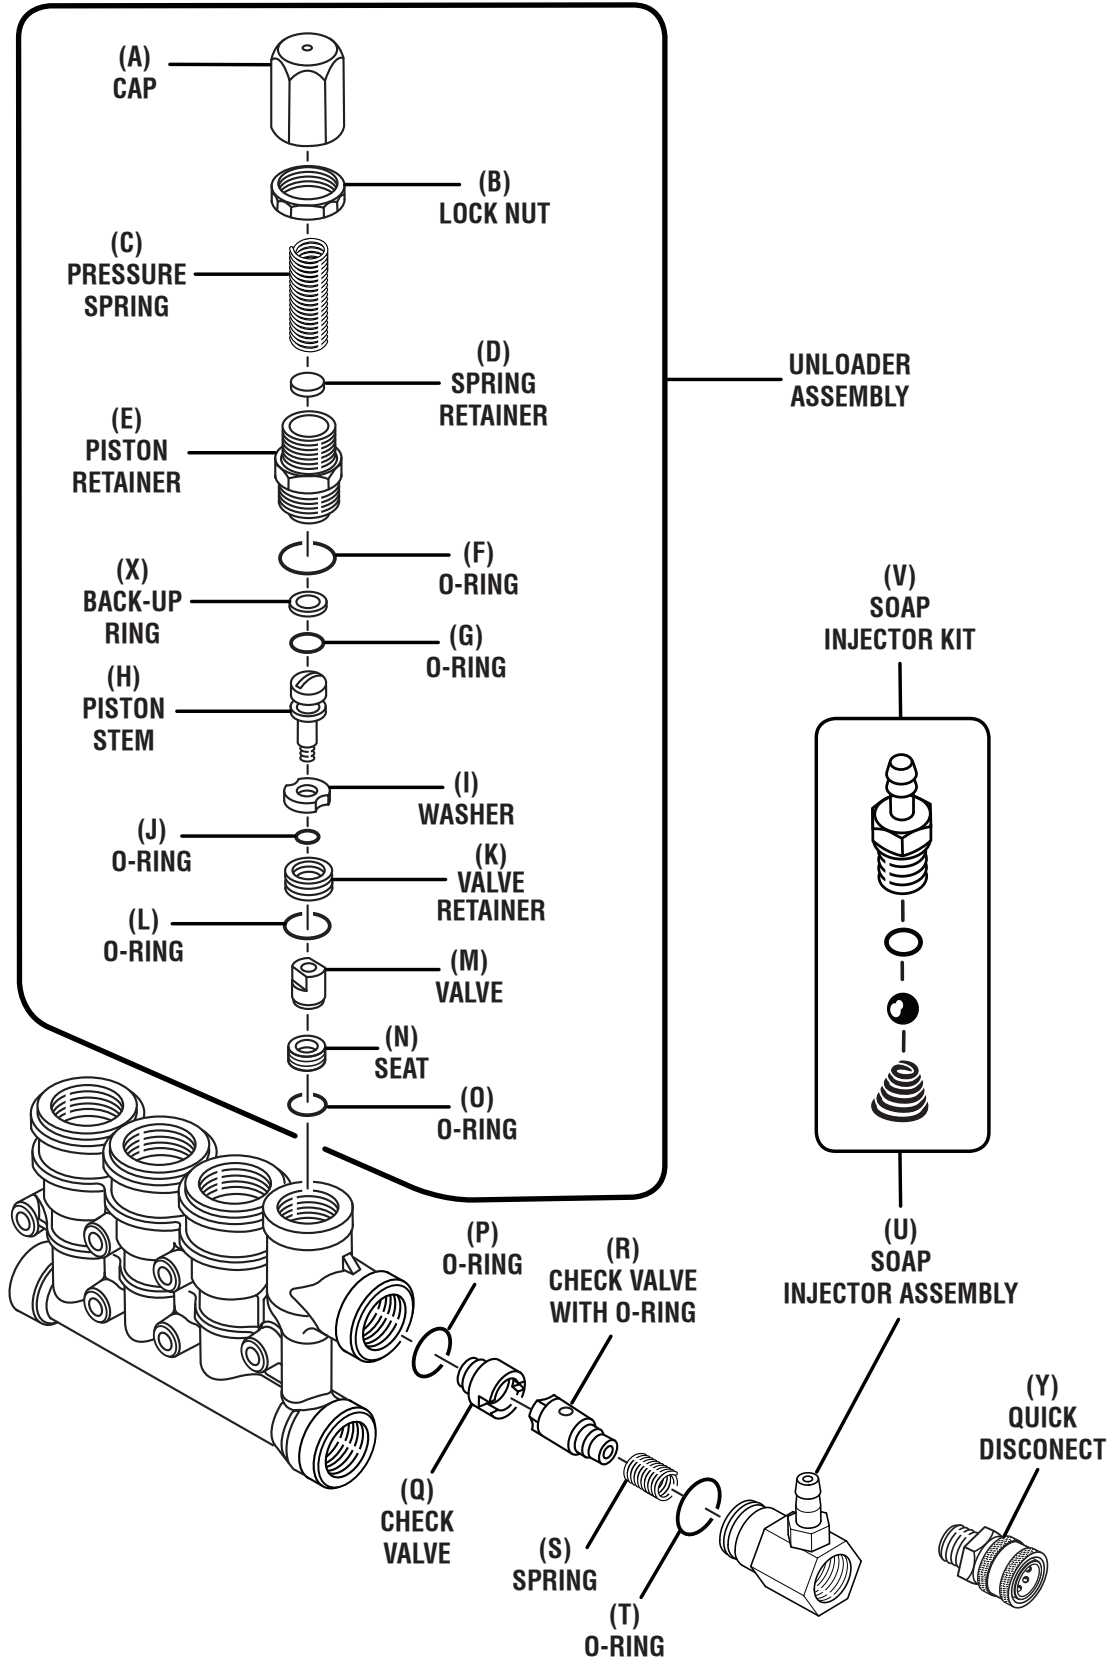

Fig. 15
1. Examine O-rings, check valves, and spring for fatigue or breaks and replace as needed. *See figure 15, page 20.*
6. Install O-ring (P) inside soap injector chamber.
7. Install check valve (Q) and check valve with O-ring (R) inside soap injector chamber.
8. Install spring (S) inside soap injector chamber.
9. Install O-ring (T) onto soap injector assembly.
10. Attach soap injector assembly (U) to soap injector chamber.
1. If seat (N) is worn or damaged, press new seat into unloader chamber until squarely seated. *See figure 15, page 20.*
2. Examine piston stem (H), washer (I), valve retainer (K) and valve (M) for grooves, pitting or wear and replace as needed. Examine o-rings (J and L) and back-up ring (X) for cuts or wear and replace as needed.
3. Lubricate and install o-ring (G) and back-up ring (X) over slotted head of piston stem, then position back-up ring on top of o-ring.
4. Lubricate and install o-rings (L) on valve retainer (K).
5. Install washer (I) and then valve retainer (K) with o-rings onto piston stem (H). Apply Loctite 242 to threads of piston stem (H) and screw valve (M) onto piston stem (H).
7. Examine piston retainer (E) for damaged threads or wear and replace as needed. Examine o-ring (F) for cuts or wear and replace as needed.
8. Apply Loctite 242 to threads of lower portion of piston retainer (E) into unloader body by turning in a clockwise direction and then tighten with wrench.